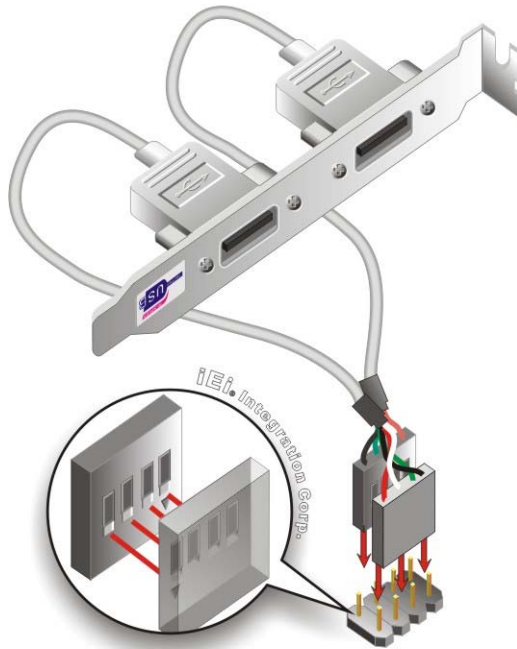

Figure 4-15: Dual USB Cable Connection
Step 3: **Insert the cable connectors.** Once the cable connectors are properly aligned with the USB connectors on the SPCIE-C2260-i2, connect the cable connectors to the on-board connectors. See **Figure 4-15**.